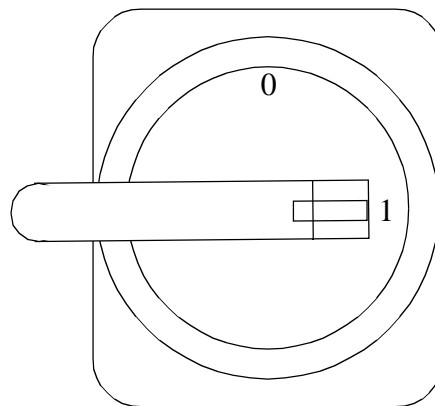

Figure 8 Mains switch
1. Switch the mains switch on (see Figure 8). The robot is then automatically checked.